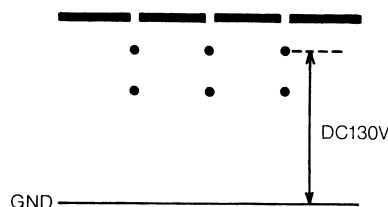

Fig. 4-1
- Adjust the screen control until voltage is 130VDC. (Refer to Fig. 4-1)